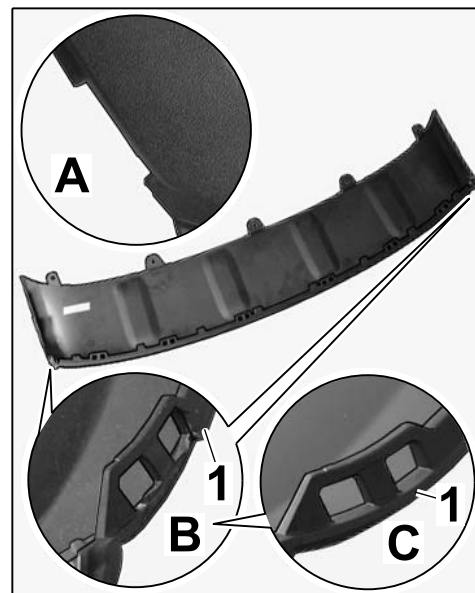

Figure 9
2.1.2 Remove edge on the front spoiler at the outer left and right using a cutter (Stanley knife) (⇒ *Figure 9*).